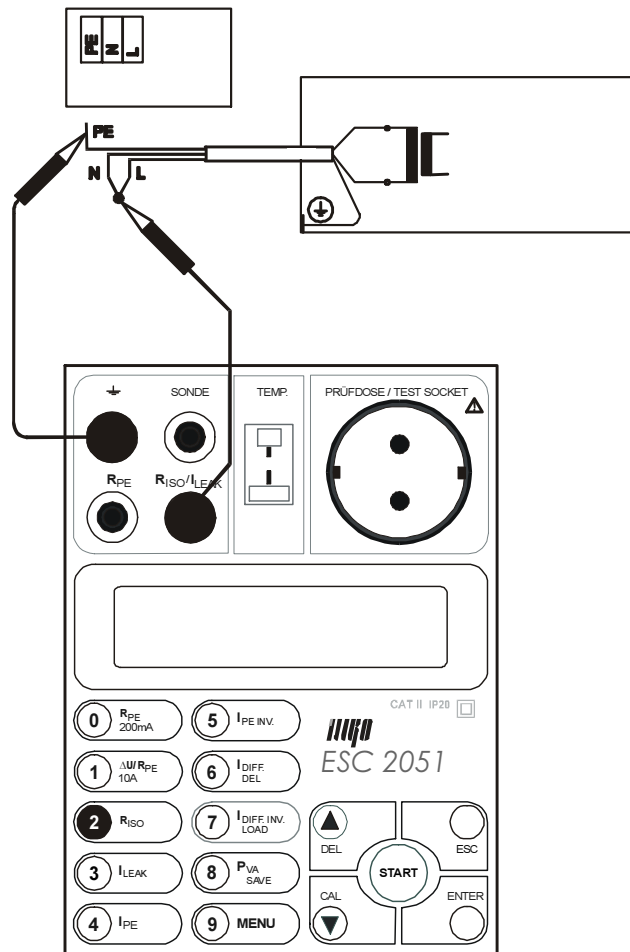

Fig. 7
- Connect test lead P 2011 with test tip P 3011 or with crocodile clip P 4011 to **R_{ISO}** / **I_{LEAK}** terminal and test lead P 2012 with test tip P 3012 to \equiv terminal (Fig. 7).